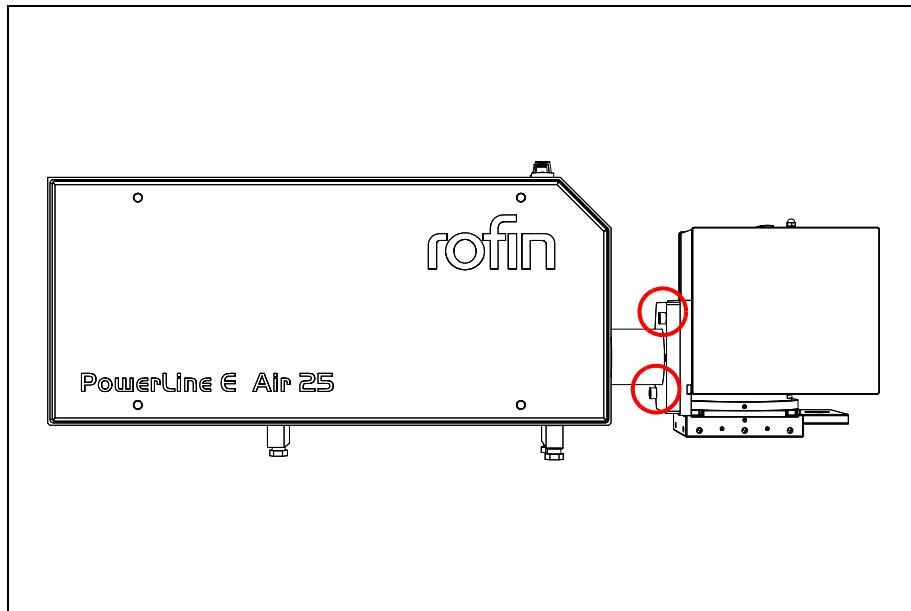

Figure 3.4 Galvo head – 1
2. Unfasten the fixing screws on the galvo head (see figure 3.4).